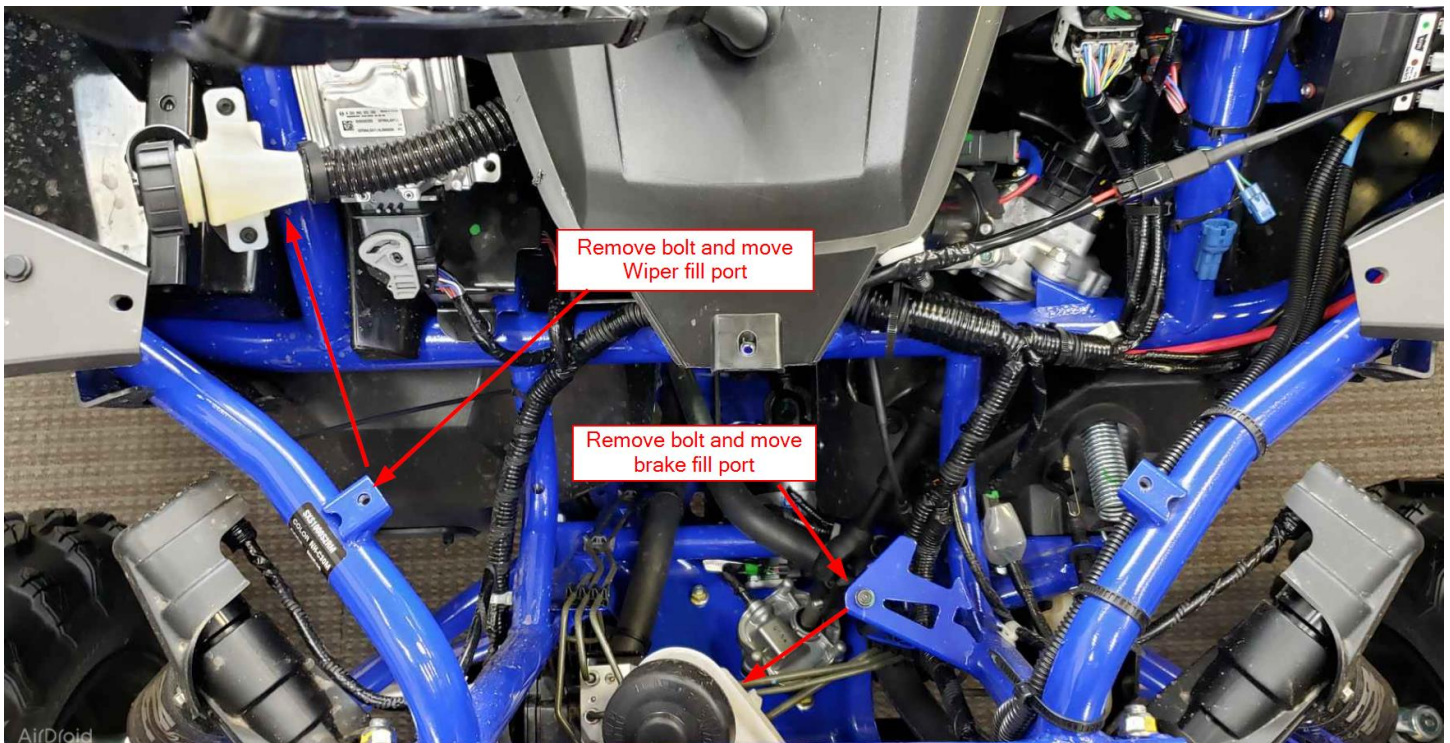

Figure 3
- e. For vehicles with OEM Wiper/Washer kit, remove the mounting bolt that secures the fill port for the washer fluid container and set it aside, see Figure 3
- f. Remove the bolt that holds the Brake Fluid fill port and move the assembly to gain access to the two tube support bars, see Figure 3